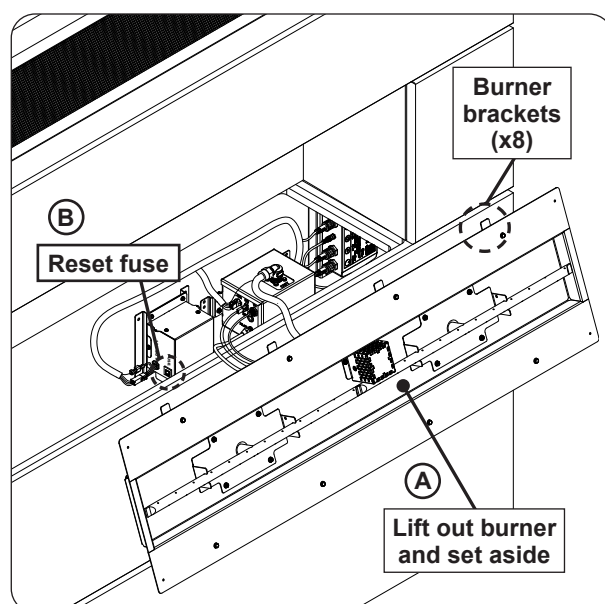
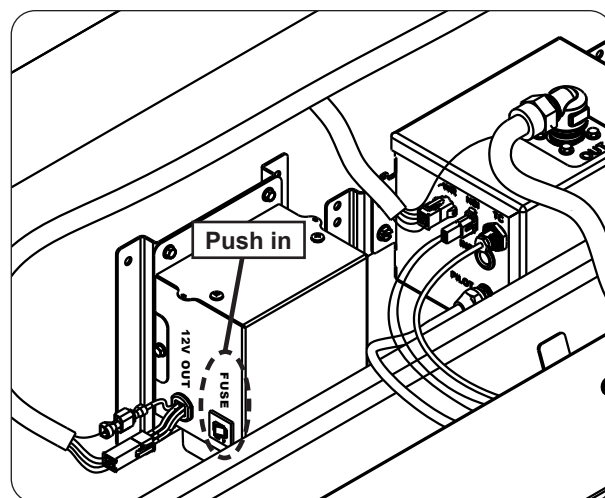

Fig. 47-2 Gain access to interior and reset fuse
Fig. 47-3 Reset fuse detail
2. Remove all media. Use a  $\frac{5}{16}$ " nut driver to partially unfasten the 8 screws found on the burner assembly. Then lift out the burner and set it off to the side. See Fig. 47-2, A.
3. Gain access to the valve box and reset the fuse by pushing it in (see Fig. 47-2, B and Fig. 47-3).